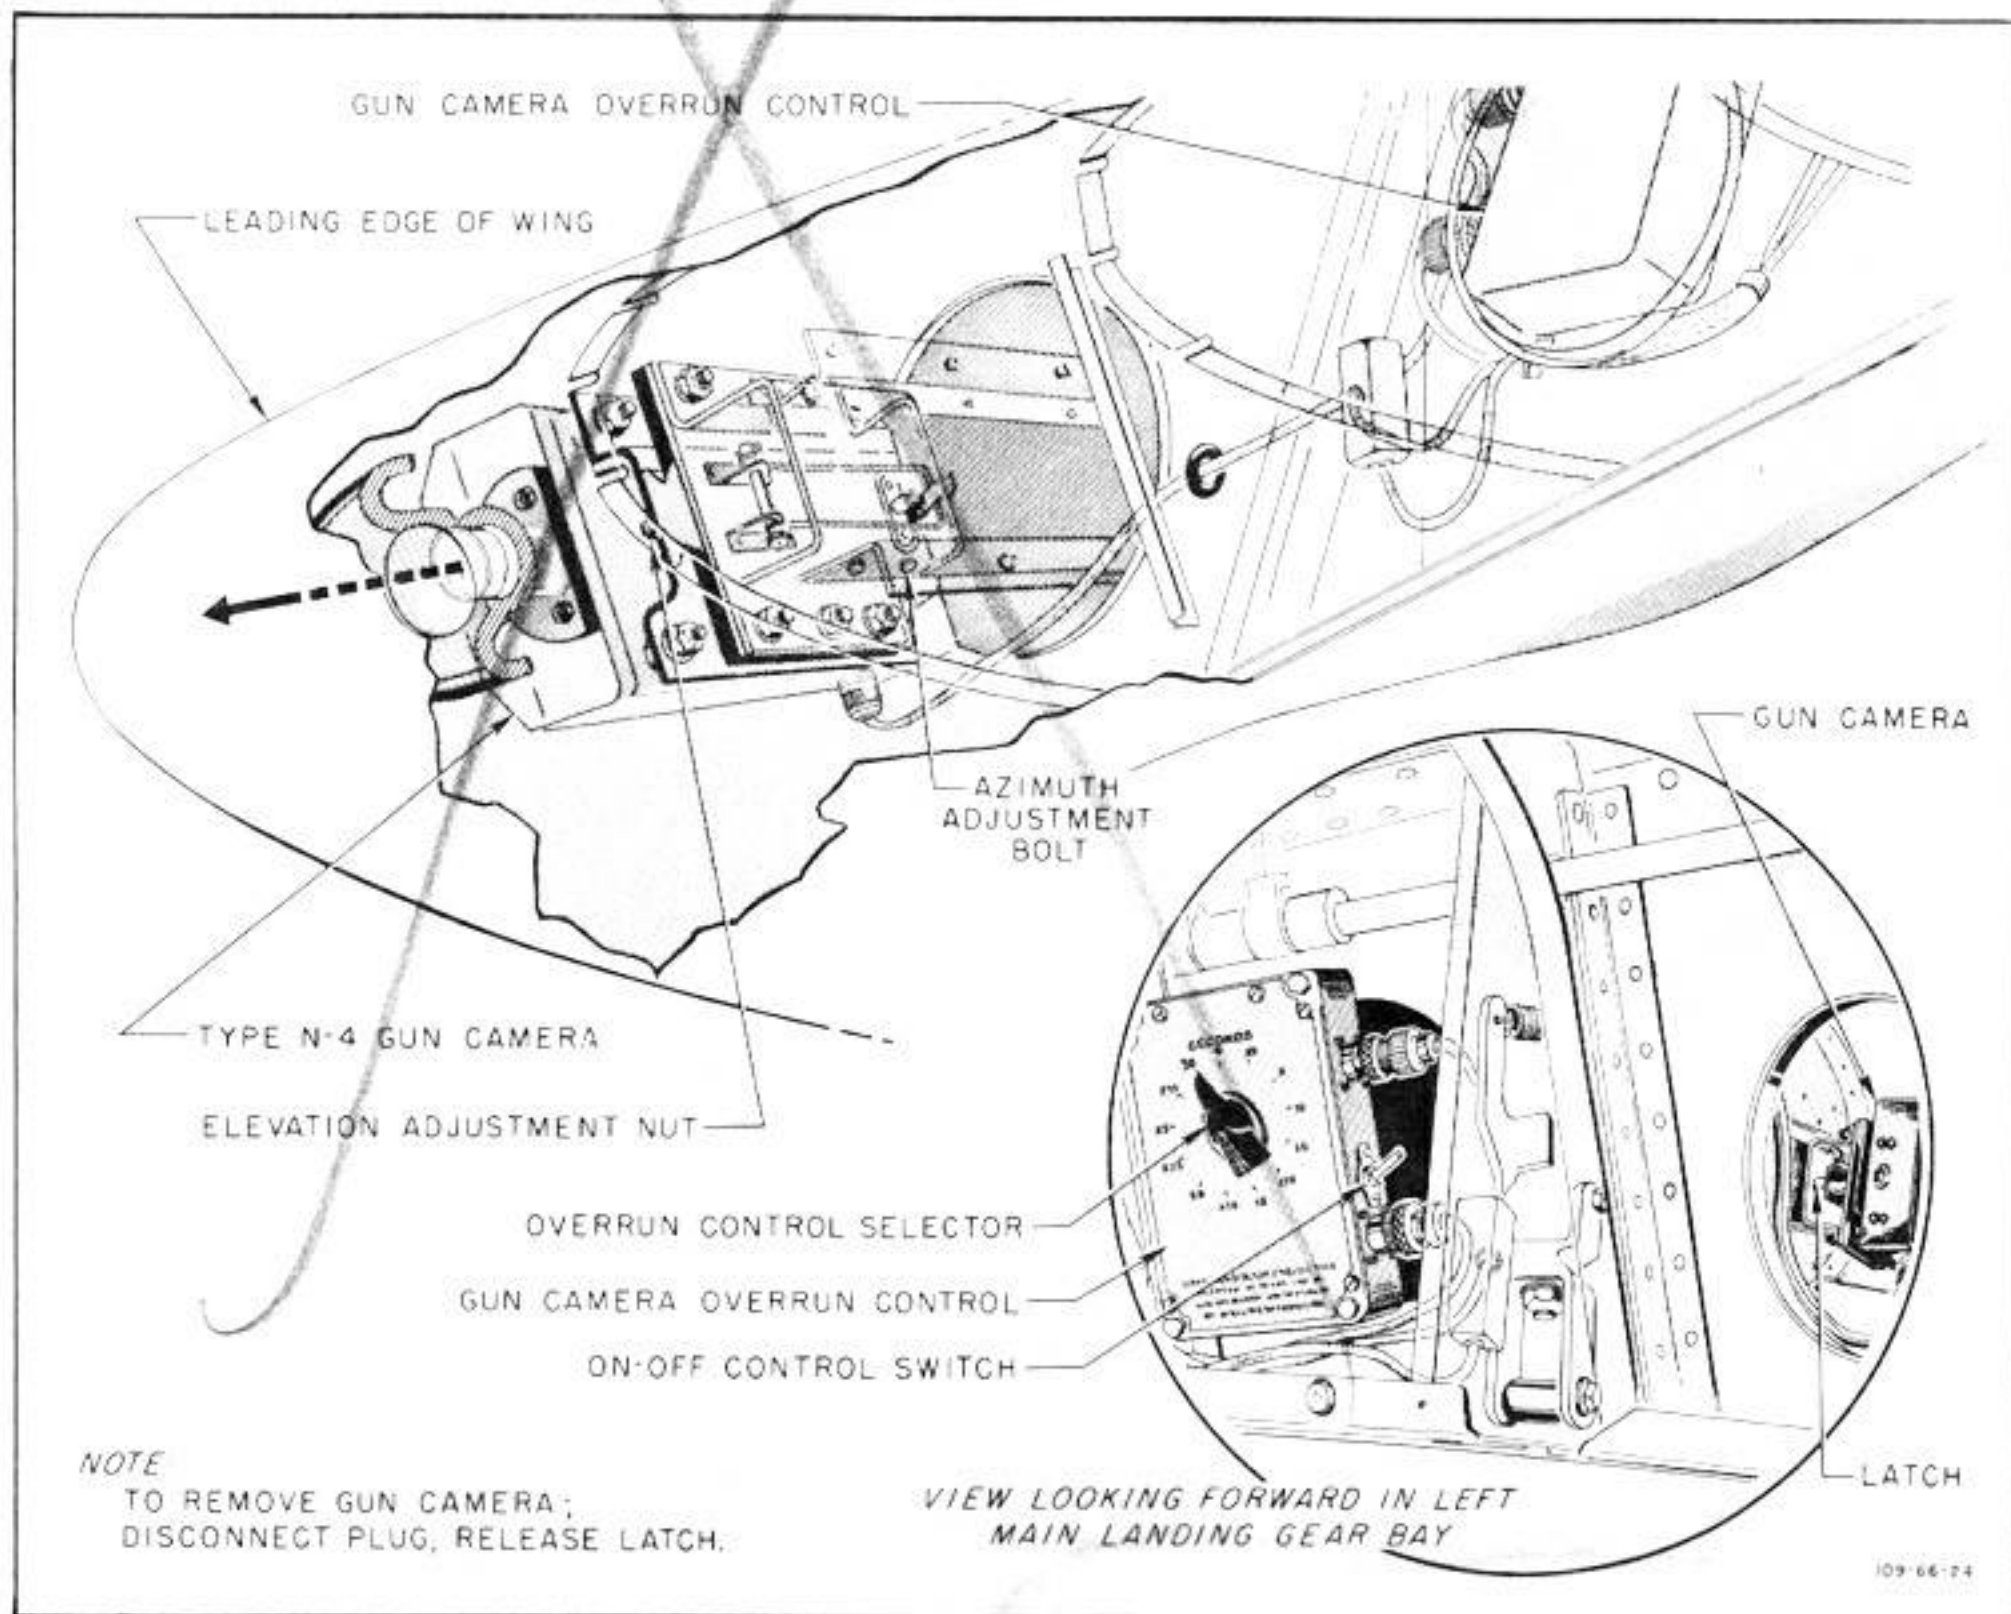

Figure 451—Gun Camera Installation—Early Airplanes
(1) GUN CAMERA.—A 24-volt Type N-4 or N-6 gun camera (figures 449 and 451) is in the left wing on the in-board side of station 29.25 rib. The camera body contains shutter, motor, drive mechanism, a reset film footage indicator, a Type A-6 film magazine, and on the Type N-6 camera, a built-in overrun control. The Type N-4 camera has a separate overrun control. (See figure 451.) The camera can be set for speeds of 16, 32, or 64 frames per second. The plain lens assembly consists of a 35 mm f/3.5 telephoto lens, a sunshade, and a No. 12 minus-blue interchangeable glass filter. The diaphragm stops are marked "BRIGHT," "HAZY," and "DULL."